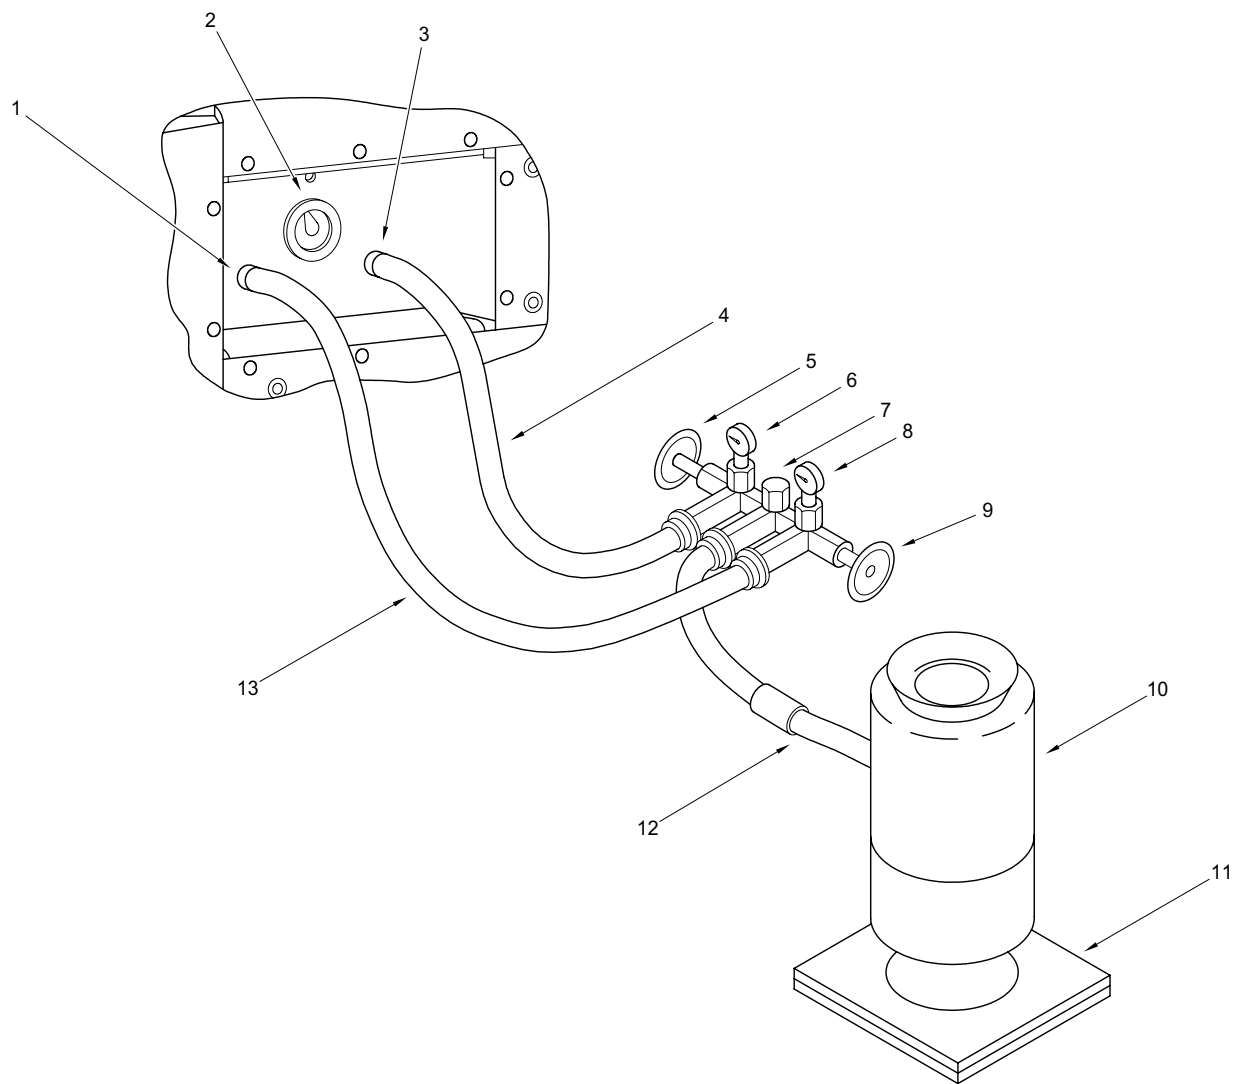

Figure 1. R410-A CHARGING SYSTEM.
1. Check that the hose (13) from the low-pressure service valve (1) is connected to the compound gage (8) side of the charging manifold. The hose (4) from the high-pressure service valve (3) should be connected to the pressure gage (6) side of the charging manifold. See Figure 1
2. Connect the center hose (12) from the charging manifold to a drum of Refrigerant-R-410A (10). Open manifold supply valve (7). See Figure 1
3. Loosen the hose connections (1, 3) to the two environmental control unit service valves slightly. See Figure 1.
5. Open the Refrigerant-R-410A drum (10) valve slightly to allow a small amount of Refrigerant R-410A to purge air from the hoses. Tighten the hose connections at the environmental control unit valves.
6. Close the low pressure (suction) charging manifold valve (9).
7. Position the Refrigerant-R-410A drum (10) so that liquid will be used for charging. (Some drums must be inverted and some are equipped with a selector valve.)
8. Using accurate scales (11) measure and record the weight of the Refrigerant-R-410A drum.
10. Open the high-pressure service valve (6) on the environmental control unit. Allow liquid Refrigerant R-410A to enter the system until the drum weight has decreased by 4.4 pounds (2.23 Kg) or until system pressure has equalized.
11. Close the Refrigerant R-410A drum valve and the high-pressure (discharge) manifold valve (6). Figure 1
12. Close manifold supply valve (7).